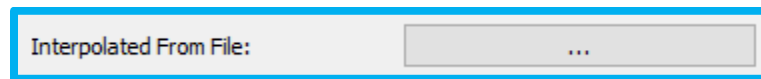

Figure 6.11. Assign elevation by interpolating elevation data
- Interpolate the elevations of the selected nodes using a data file by clicking on the button next to "Interpolated from File," as shown in Figure 6.11. The format of the data file is a series of x, y, z space delimited data.